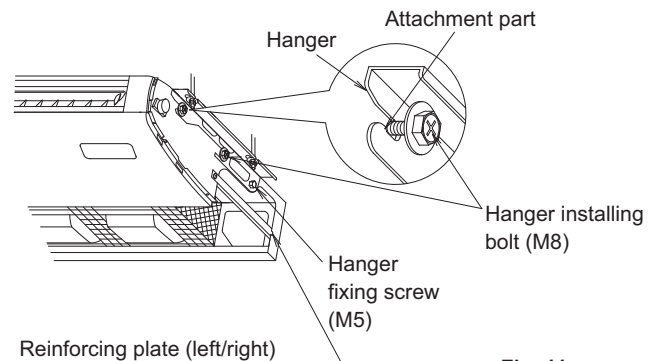

Fig. 11
- Lift up the indoor unit, slide from the front and put the hanger installing bolt (M8) into the securely for temporary hanging. (Refer to Fig. 11)
- Tighten the hanger fixing screws (M5) at 2 places, which were removed, as they were before. (Refer to Fig. 11) It is necessary to prevent misalignment of the indoor unit.
- Tighten the hanger installing bolts (M8) at 4 places properly. (Refer to Fig. 11)